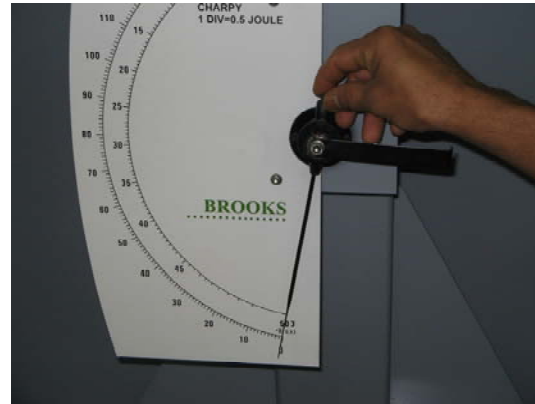

Fig.7.8: setting the indicator to zero.
- Adjust the indicator with its carrier to the “zero” position (set to zero or 50 joules) as shown in Fig.7.8.